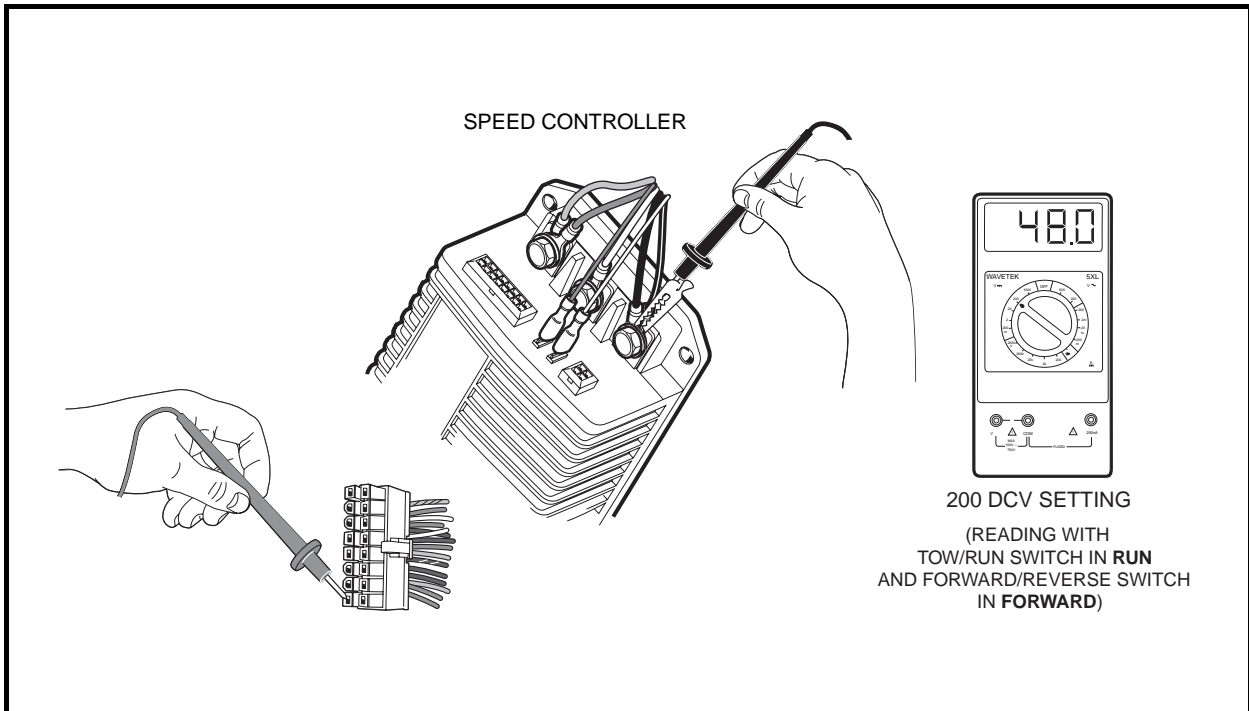

Figure 11-14 Pins 8 and 16 Test
4. Using a multimeter set for 200 volts DC, insert the red (+) probe of the multimeter into pin 8 (white wire) of the 16-pin connector. **See following CAUTION.** Using an alligator clip, connect the black (–) probe to the B– terminal of the speed controller (**Figure 11-14, Page 11-29**).